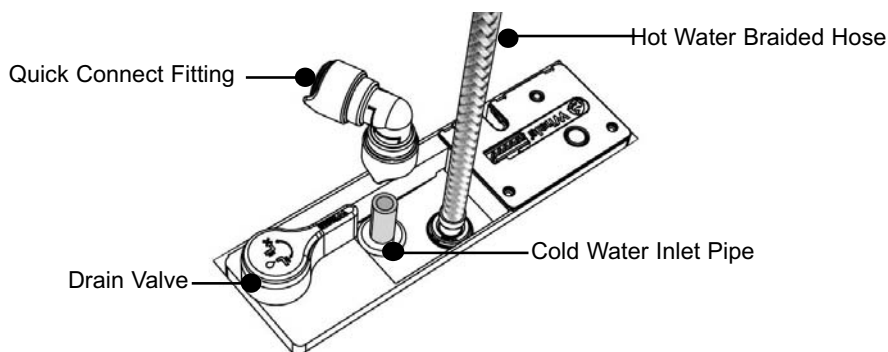

Fig. 31 Connect Cold Water Supply
Step 9 Connection to Cold Water Supply (see Fig. 31)